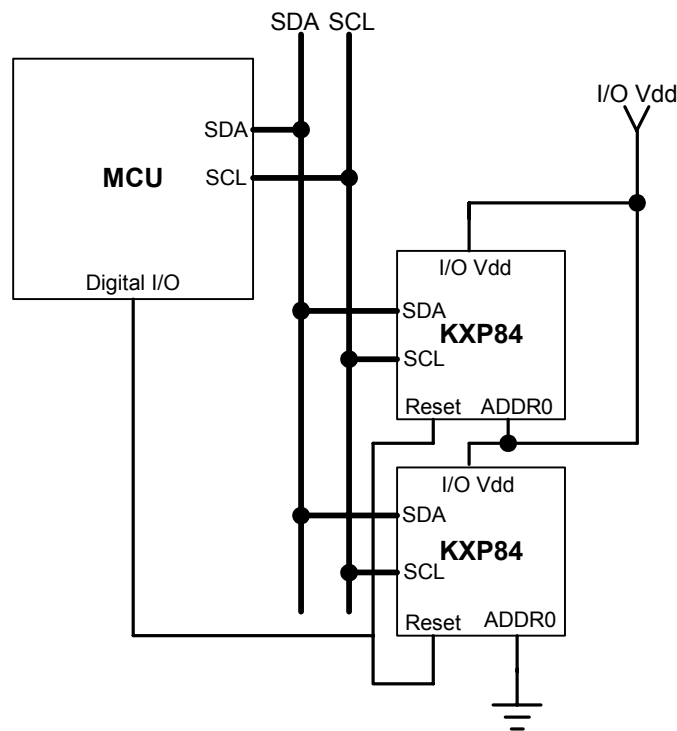

Figure 1 Multiple KXP84 I2C Connection
The KXP84 has the ability to communicate on an I2C bus. I2C is primarily used for synchronous serial communication between a Master device and one or more Slave devices. The Master, typically a micro controller, provides the serial clock signal and addresses Slave devices on the bus. The KXP84 always operates as a Slave device during standard Master-Slave I2C operation as shown in Figure 1 on the following page.
Transactions on the I2C bus begin after the Master transmits a start condition (S), which is defined as a high-to-low transition on the data line while the SCL line is held high. The bus is considered busy after this condition. The next byte of data transmitted after the start condition contains the Slave Address (SAD) in the seven MSBs (Most Significant Bits), and the LSB (Least Significant Bit) tells whether the Master will be receiving data '1' from the Slave or transmitting data '0' to the Slave. When a Slave Address is sent, each device on the bus compares the seven MSBs with its internally-stored address. If they match, the device considers itself addressed by the Master. The KXP84's Slave Address is comprised of a programmable part and a fixed part, which allows for connection of multiple KXP84's to the same I2C bus. The Slave Address associated with the KXP84 is 001100X, where the programmable bit, X, is determined by the assignment of ADDR0 (pin 10) to GND or I/O Vdd. Figure 1 above shows how two KXP84's would be implemented on an I2C bus.